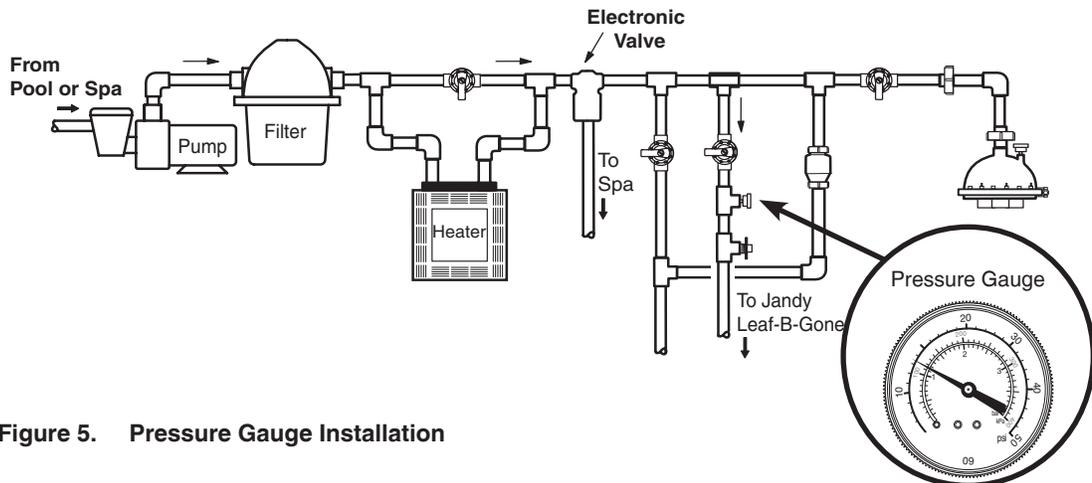

Figure 5. Pressure Gauge Installation
- Install the pressure gauge on the Jandy Leaf-B-Gone supply line between the 2-way valve and the accessible tee (see Figure 5).